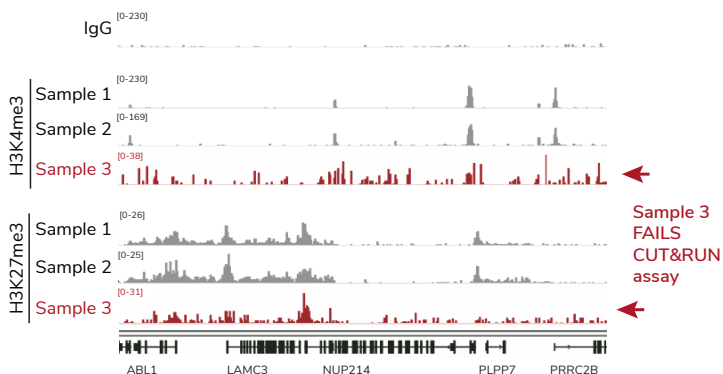

FIGURE 16
- Next, compare the quality of genomic profiles to spike-in results for each sample. Figure 16 shows tracks for IgG, H3K4me3, and H3K27me3 for all three samples.
- Genomic profiles agree with spike-in data: Samples 1 and 2 show expected tracks with high S:N, while Sample 3 profiles exhibit poor S:N (red arrows, Figure 16).